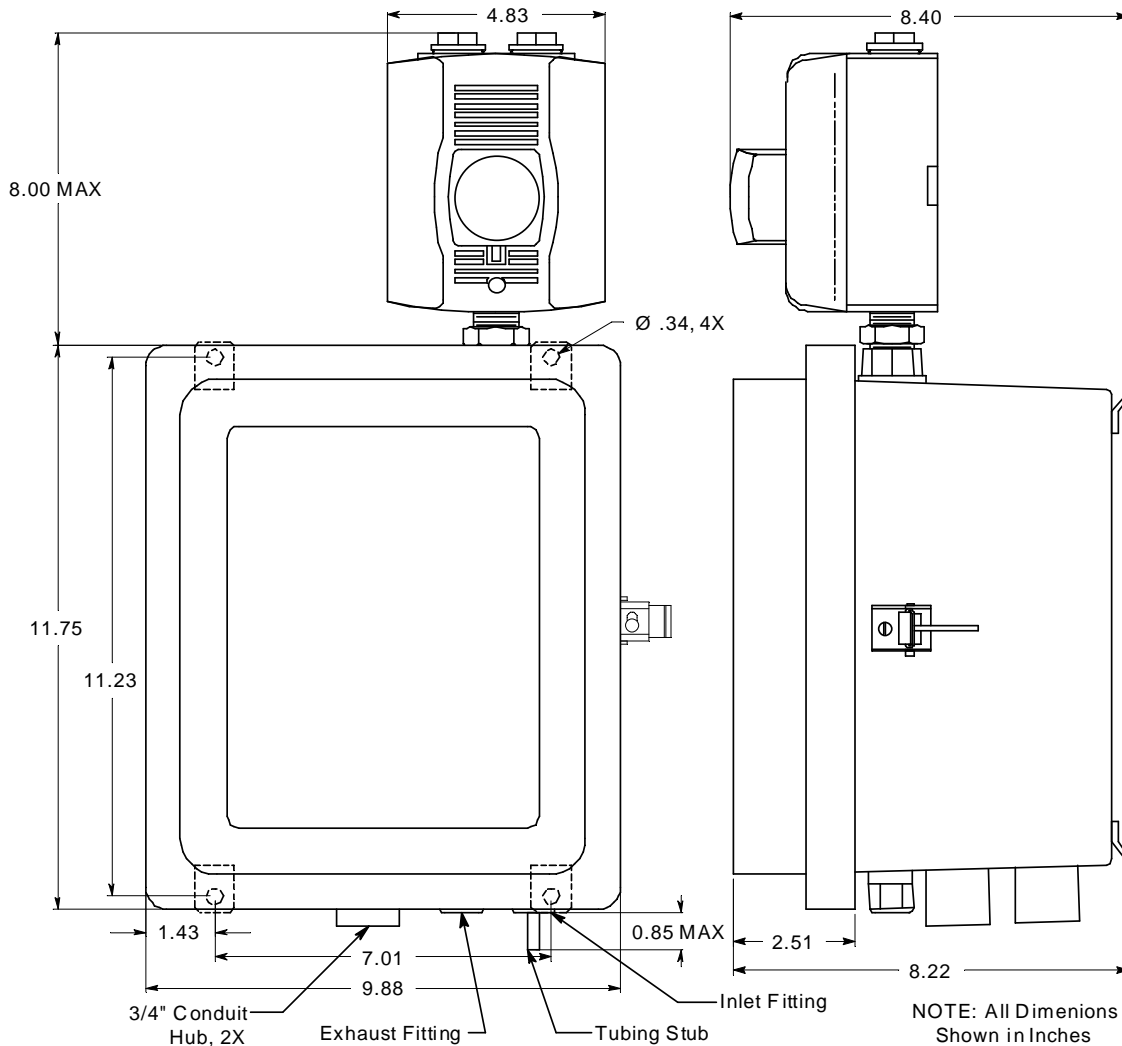

Figure 3: Outline & Mounting Dimensions
- Use four 1/4" screws through the mounting feet to mount the GD-70D4H-XX to a vertical surface. See Figure 3 for the mounting dimensions.